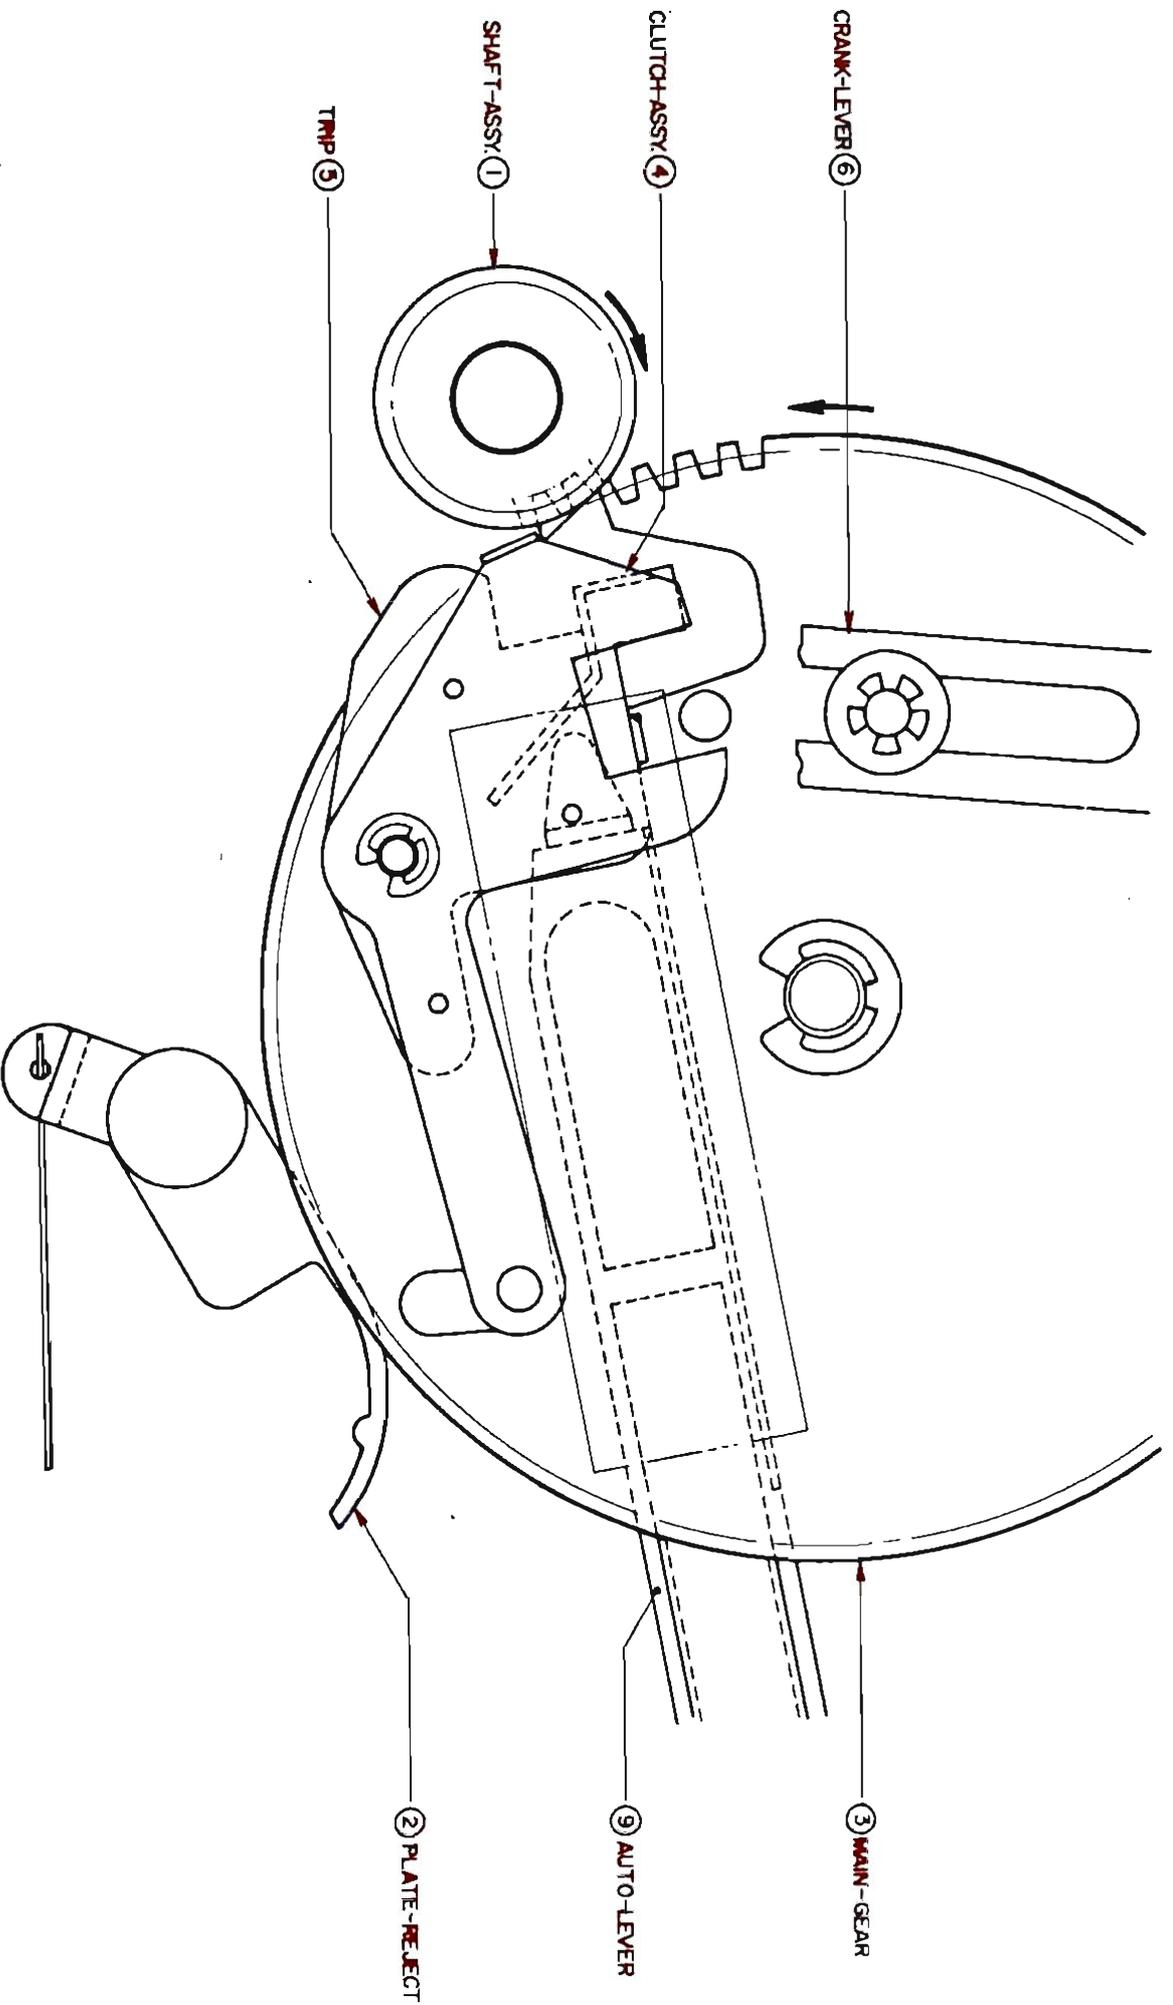
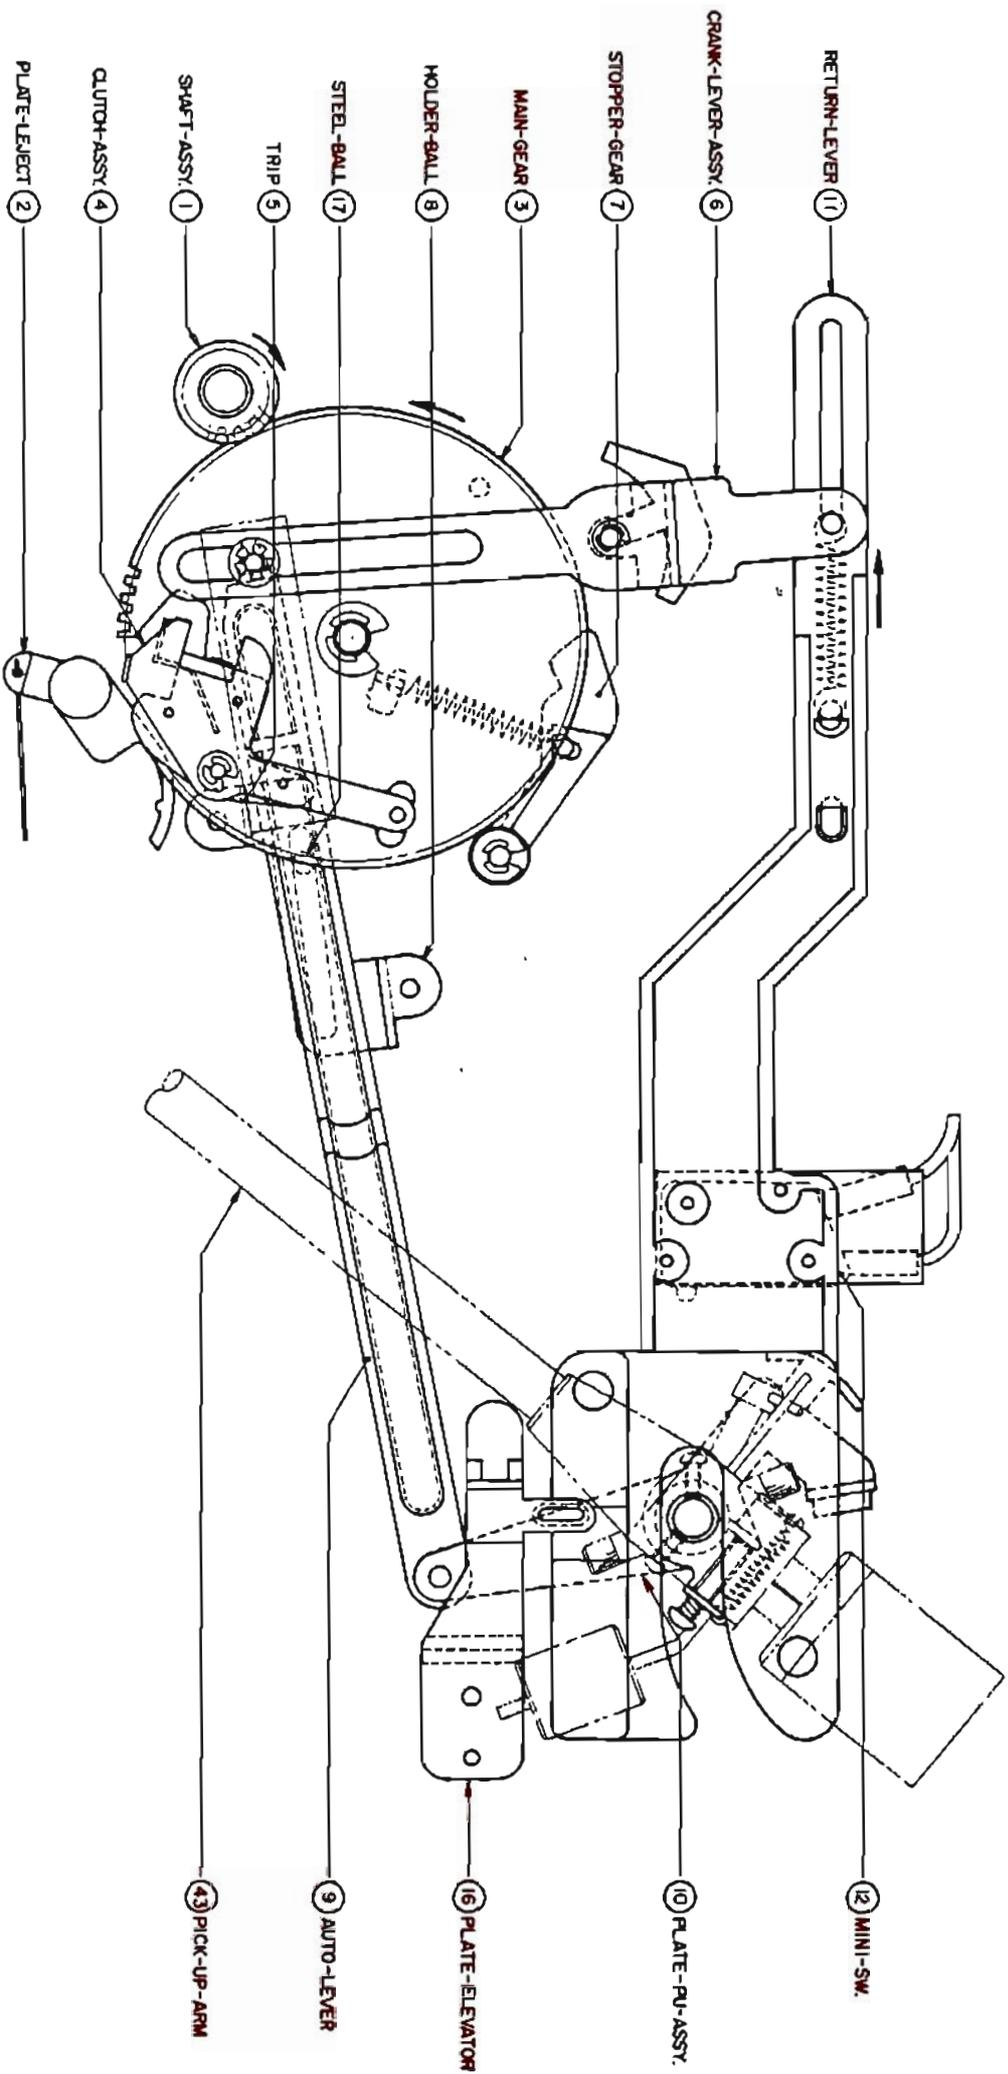
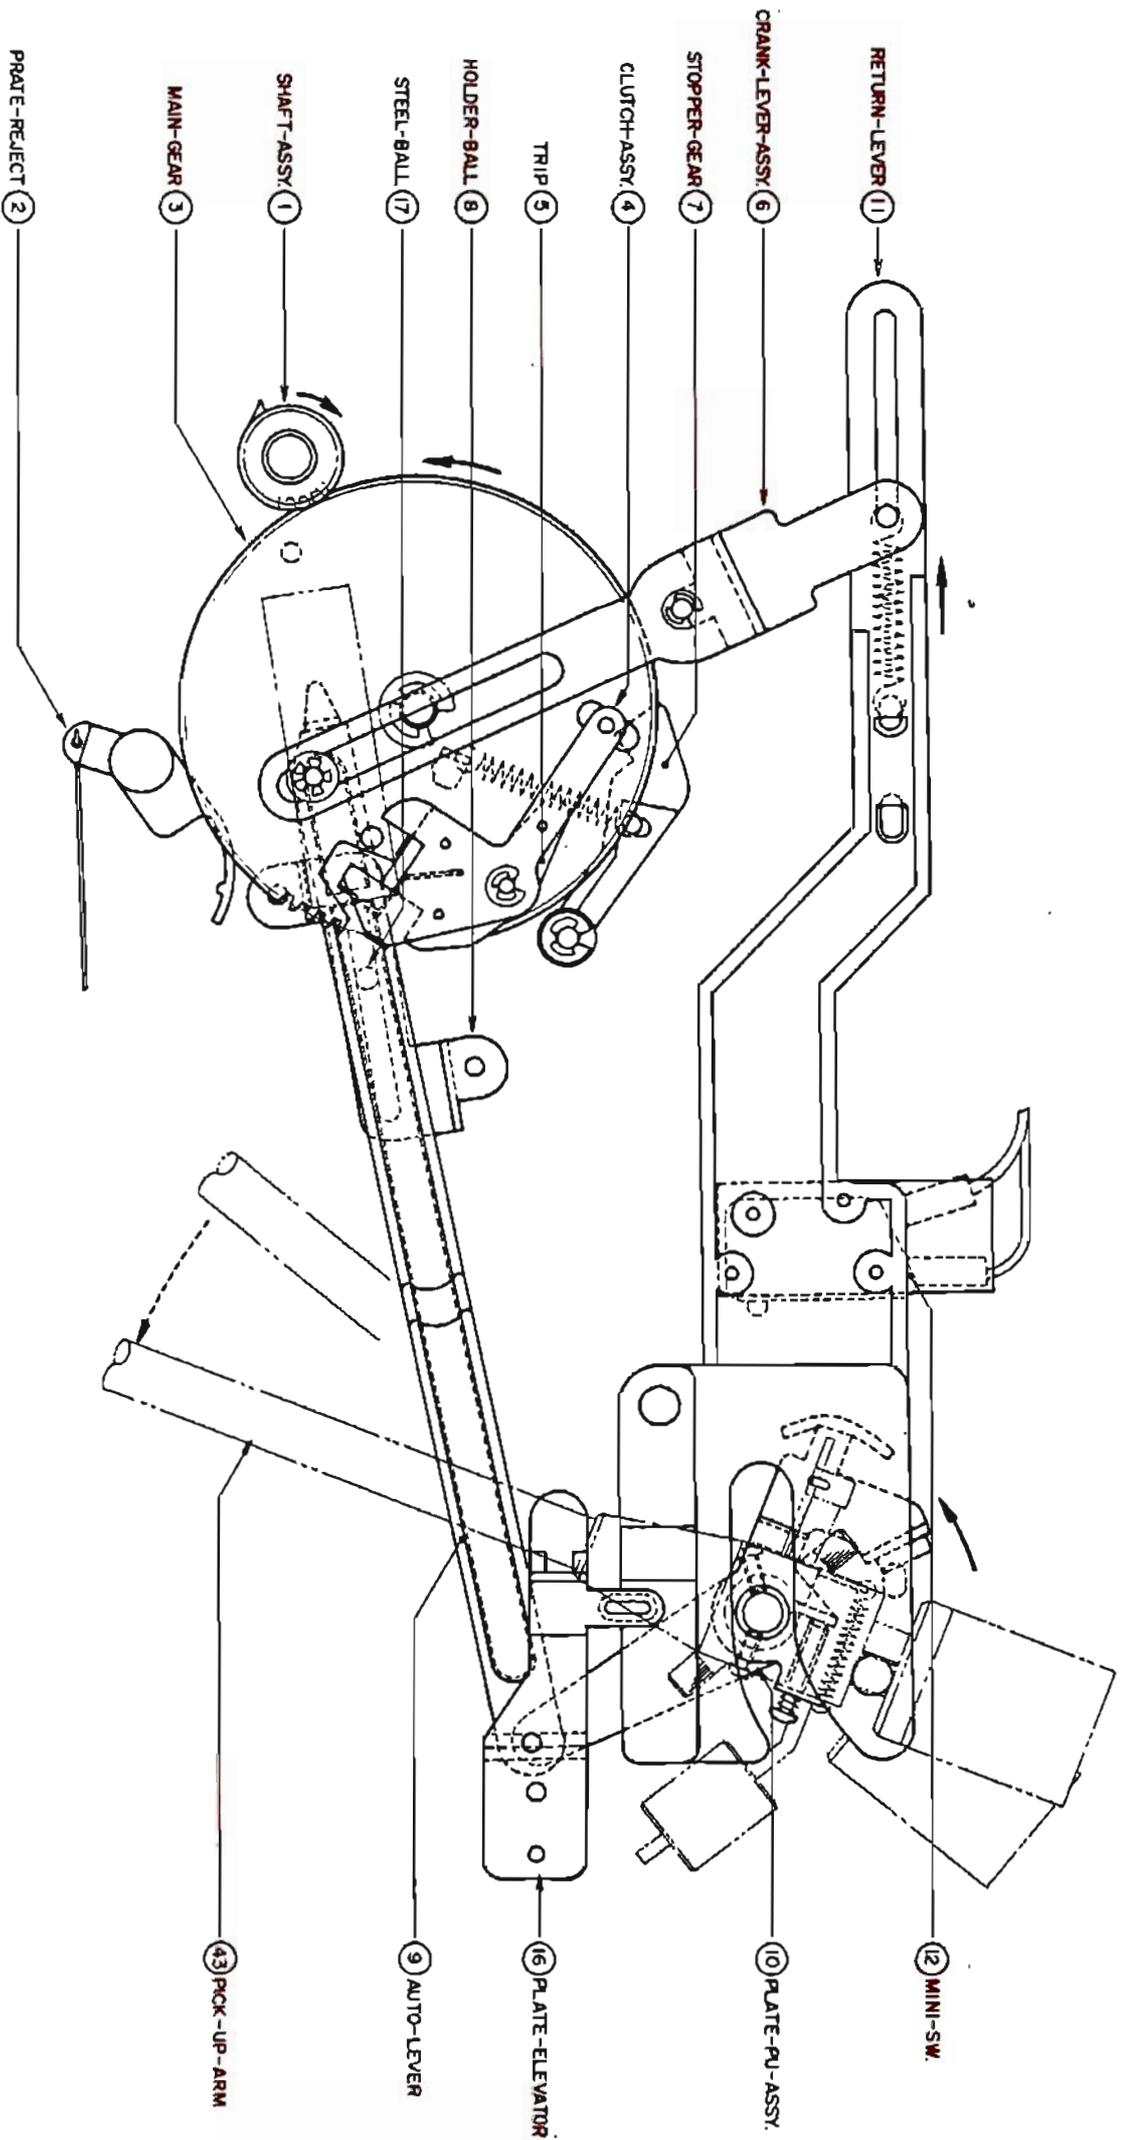

Fig. 6 MAIN-GEAR REVOLUTIONS BEGIN (AUTO RETURN BEGINS)
Fig. 7 PICK UP ARM ELEVATION COMMENCES
Fig. 8 PICK UP ARM RETURN COMMENCES
At this condition, the protruding part of the gear on TABLE SHAFT ASSY (1) is drawn to CLUTCH ASSY (4) and the MAIN GEAR begins to rotate (Fig. 6). Up to now MAIN GEAR (3) had been held at a standstill by STOPPER GEAR (7) and a smooth stop effected by the teeth gap, but when the condition in Fig. 6 is assumed the teeth begin to mesh together and rotating motion begins. Then as shown in Fig. 7, this motion by means of CRANK LEVER ASSY (6) moves RETURN LEVER (11) in the direction of the arrow, and PLATE ELEVATOR (16) is raised and the lifter is elevated. When pick up arm elevation is complete, as shown in Fig. 8, the part indicated by broken line of RETURN LEVER (11) hits the cushion part attached to the tip of PLATE PU ASSY (10) and pick up arm return commences. When the pick up arm returns to the rest, the RETURN LEVER (11) by means of CRANK LEVER (6) moves in the opposite direction (broken arrow mark), PLATE PU ASSY (10) returns to former position, and in due course approaching MINI SW (12) is operated and the power source is turned OFF so that the condition in Fig. 3 is re-assumed.